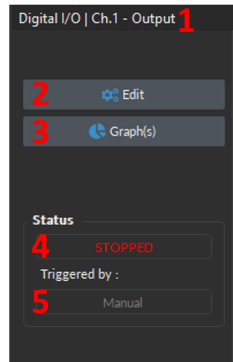
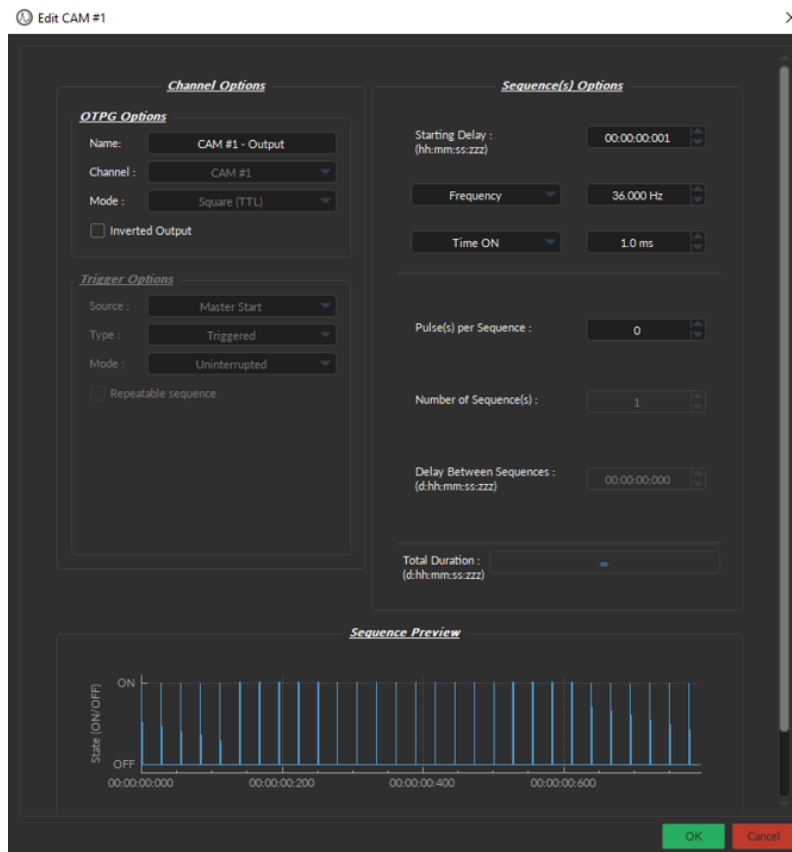
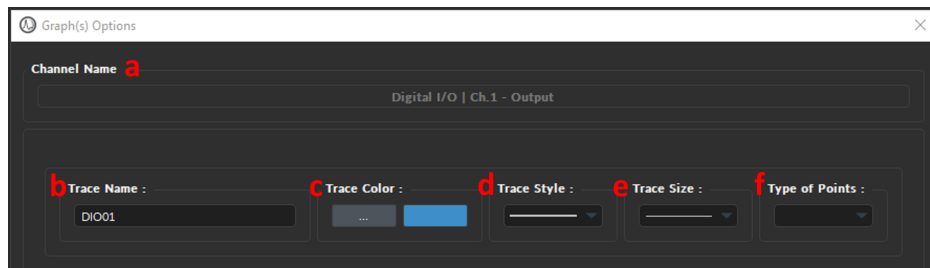
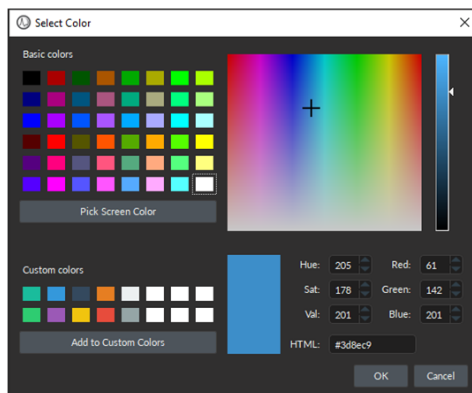

Figure 7.29: Digital I/O View, Control box
Figure 7.30: Edit Digital I/O parameters]
Figure 7.31: Graph(s) Options Window
Figure 7.32: Select Color Window
The following elements are contained within the **Control Box** of every Digital channel (Fig. 7.29):
1. The **Channel name** (Fig. 7.29, 1) is located on the upper left of the **Control box**, identifying the type of channel and its number, corresponding to that on the *Microscope Driver*.
2. The **Edit** button (Fig. 7.29, 2) opens the **Channel Configuration** window, where the preset digital outputs can be modified (Fig. 7.30). For details on individual parameters, see Section 7.4.1.
- The **Graph(s)** (Fig. 7.29, 3) button opens the **Graph Options** window (Fig. 7.31) corresponding to the channel whose graph will be modified. This window allows users to configure the visualization and naming parameters of each channel graph. If a channel has multiple traces, parameters to configure each trace individually will appear automatically on different rows. **Graph(s) Options** parameters are as follows:
- The **Channel Name** (Fig. 7.31, a) is the default name assigned by the software, which includes the type of channel (Digital / Analog In or Out) and the location of said channel on the console (BNC connector 1-4).
- The **Trace Name** text-box (Fig. 7.31, b) allows users to specify a name for the trace, instead of the default name generated by the software.
- The **Trace Color** button (...) (Fig. 7.31, c) opens the **Color Select** window (Fig. 7.32), which allows the selection of a trace color from a wide palette. The **Pick screen color** in this window allows the selection of any color displayed on the computer screen.
- The **Trace style** drop-down list (Fig. 7.31, d) allows the selection of the type of trace, from full to dashed lines. If the style chosen is empty, the trace will not be displayed.
- The **Trace size** drop-down list (Fig. 7.31, e) allows the selection of the trace size. Using a bigger **Trace size** than the default may result in slower display and performance degradation.
- The **Type of points** drop-down list (Fig. 7.31, f) selects the style data point used to demark instantaneous values on the graph. Using different point types than the default (none) may result in slower display and performance degradation.
- The **Status** bar (Fig. 7.29, 4) displays acquisition status. **STOPPED** is displayed when the acquisition is inactive, **STARTED** when acquisition is active, and **WAITING...** when the **Master Trigger** is set to *Triggered* (see Section 7.10a, no. 2).
- The **Triggered by:** (Fig. 7.29, 5) text-box displays the source of the trigger for that channel, which can either be Manual (i.e. selecting the **Record/Live** button) or a specific channel that provides external trigger signal.